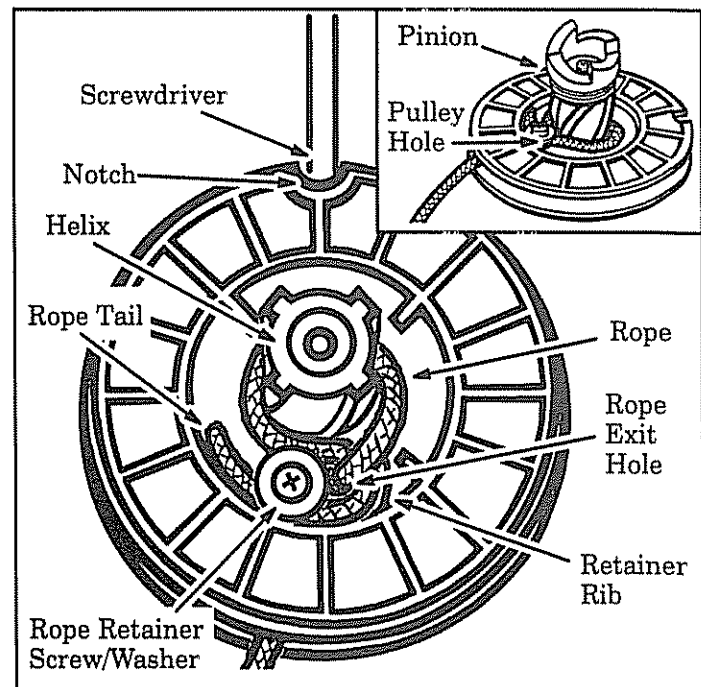

Figure 7
4. Grasp the Pinion [Figure 7 (inset)] and wind the pulley clockwise until the Pulley stops. Then, slowly unwind the pulley counterclockwise until the Pulley Notch (Figure 7) is aligned with the notch in the Pulley Housing. Insert a screwdriver into the hole formed by the aligned notches. Figure 7.
5. Remove the Rope Retainer Screw/Washer. Figure 7. Discard any remaining rope.
10. Guide rope inside the pulley, then up through the Pulley Hole. Figure 7 (Inset).
11. Wrap rope counterclockwise around Helix and tuck the loose end back under the rope. Figure 7. Leave about a 1 inch tail next to the Retainer Rib as shown in Figure 7.